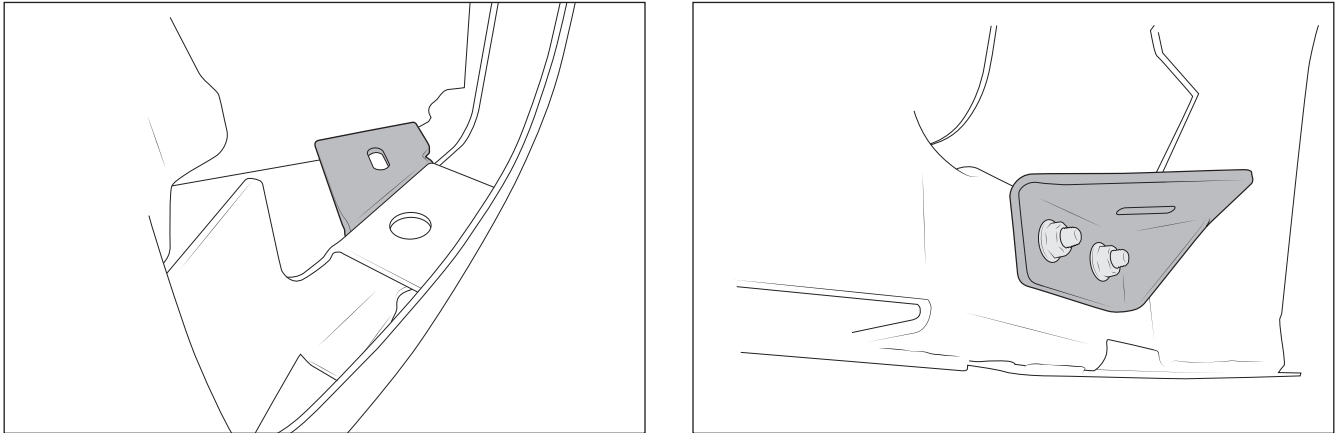

Figure 41
1. Install AEV light brackets to bumper corners with supplied hardware (fig. 41).